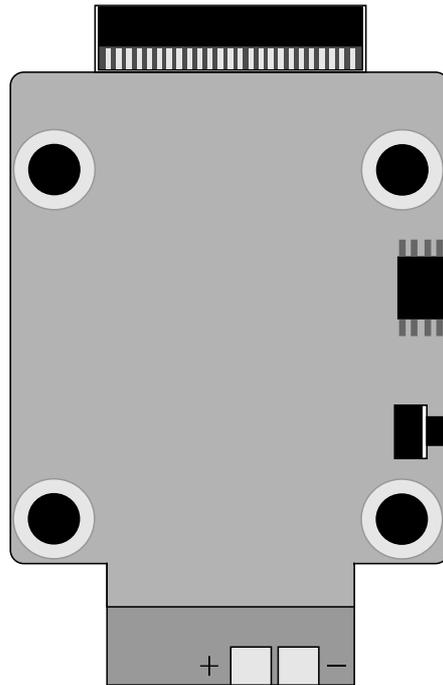

Fig.4.1.4.2 schematic diagram of bottom power soldering pad port
1. Fig.4.1.4.1 port [1] is the power socket: For power supply, the positive and negative poles are shown above, connect with 3S~6S DC power supply, and the minimum power required is 12W, namely 12V @1A.